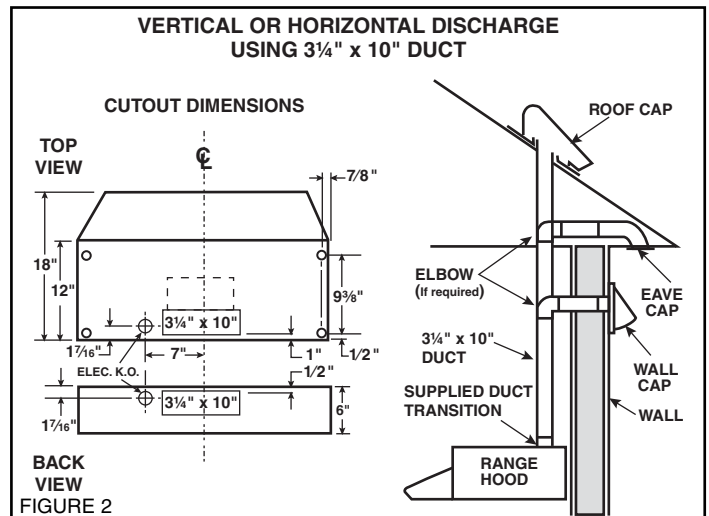

FIGURE 2
- Refer to **Figure 2** if the range hood is to be installed with a vertical discharge.